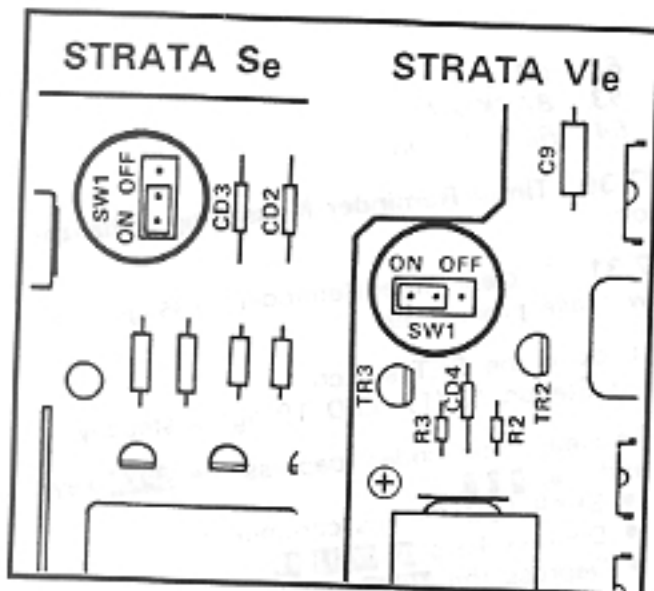

FIGURE 17—SCCU/VCCU BATTERY STRAP
07.02 Refer to Figure 17 and verify that the battery on the SCCU/VCCU is connected to ensure that data changes entered after initialization will not be lost due to power failure.